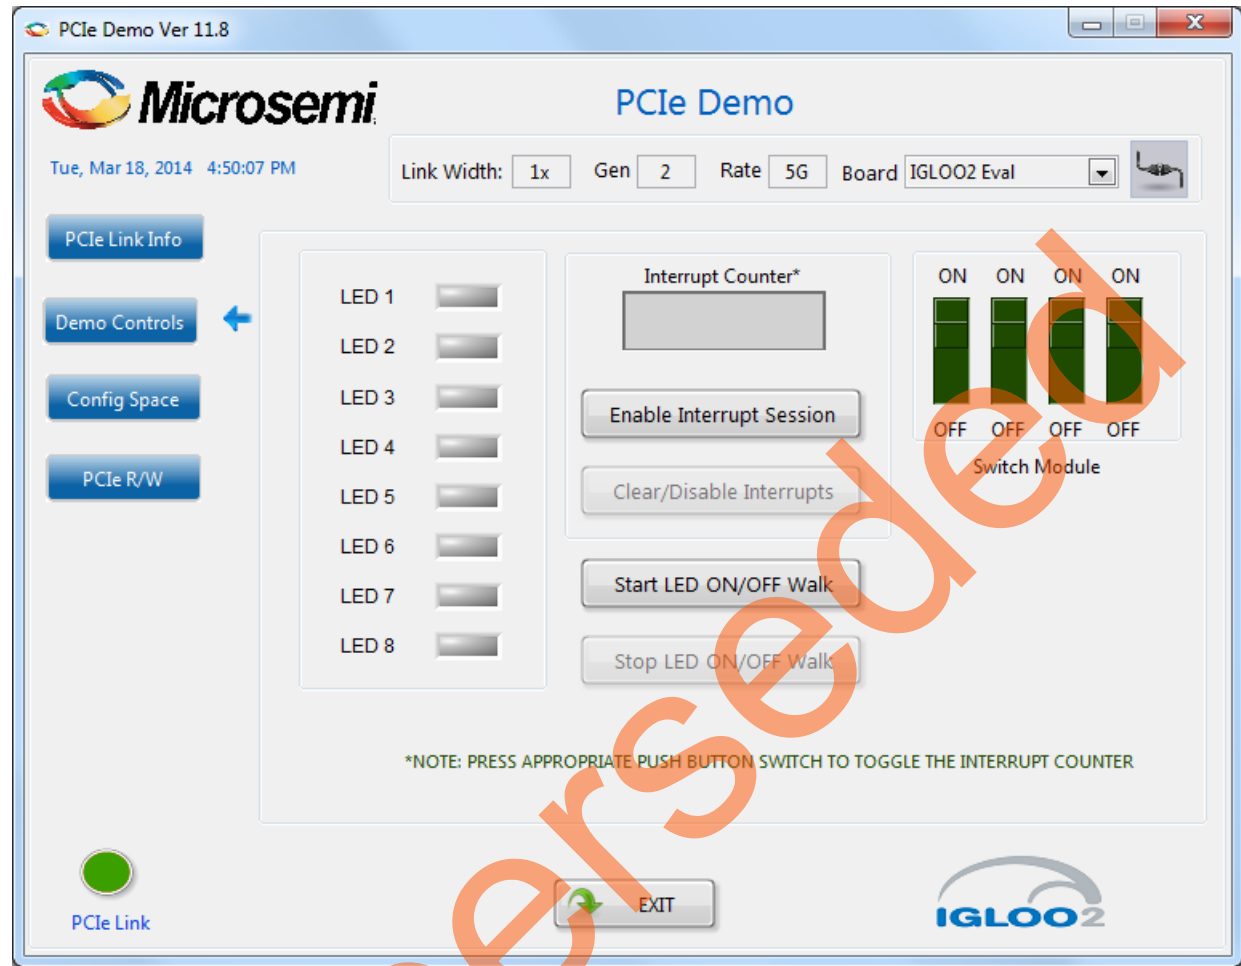

Figure 57 • Demo Controls
4. Clicking **Demo Controls** in the GUI displays the LED options and DIP switch positions as shown in Figure 57.